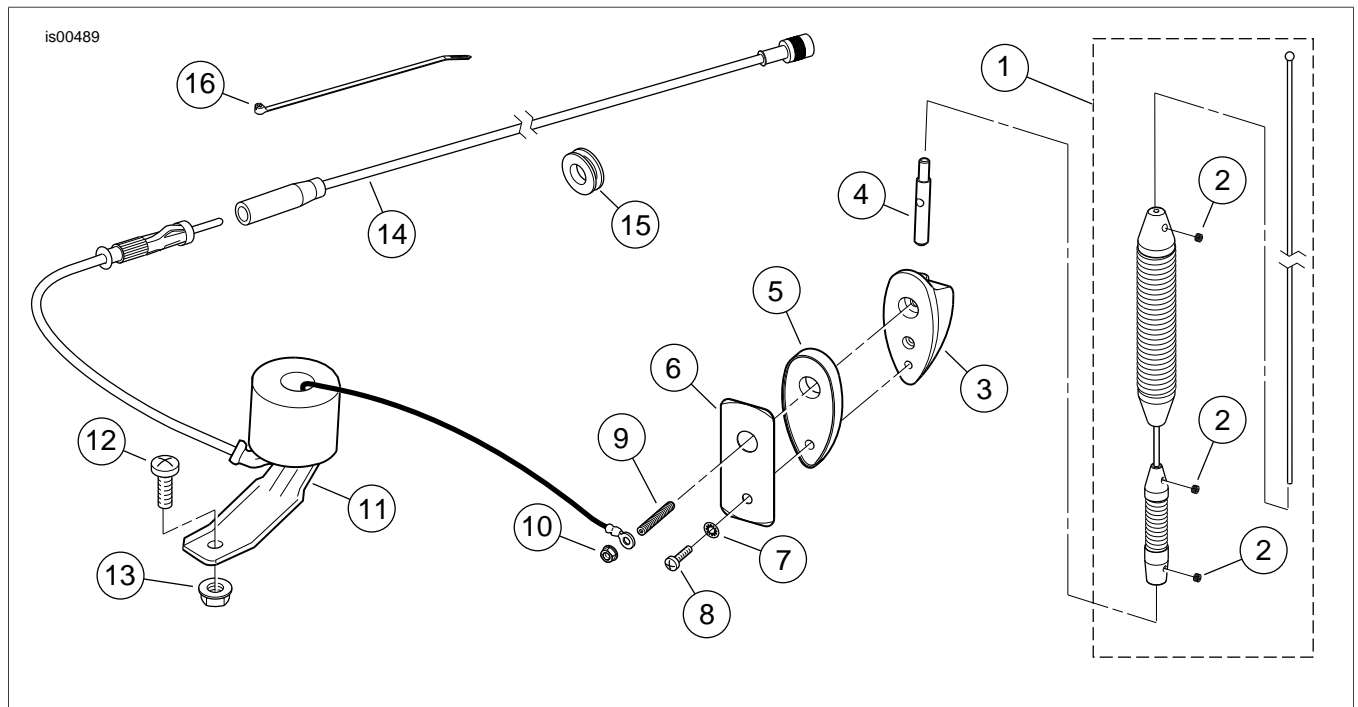

Figure 4. Service Parts, CB Tour-Pak Mount Antenna
- See Figure 4. Obtain the antenna base (3), adapter (4), and threaded stud (9) from the kit. Insert the adapter into the hole on the **top** of the antenna base.
- Assemble the base gasket (5) to the antenna base.
- With the adapter (4) facing **up**, position the base assembly over the holes drilled earlier in the outside rear Tour-Pak wall. Be sure the threaded stud (9) goes through the larger (top) hole.
- Place the antenna reinforcement plate (6) in position inside the Tour-Pak. Place the ring terminal coming from the loading coil over the antenna mast stud. Use the hex nut with lock washer (10) to attach the loading coil cable to the stud, but do not fully tighten at this time.
- Install the TORX® screw (8) and small lockwasher (7) through the smaller (bottom) hole of the antenna reinforcement plate into the antenna base. Tighten the screw securely. Tighten the hex nut securely.
25. Thread the antenna mast assembly (1) onto the antenna base adapter (4), and use a 2 mm hex key to securely tighten the set screw at the bottom of the mast assembly to hold it in place.